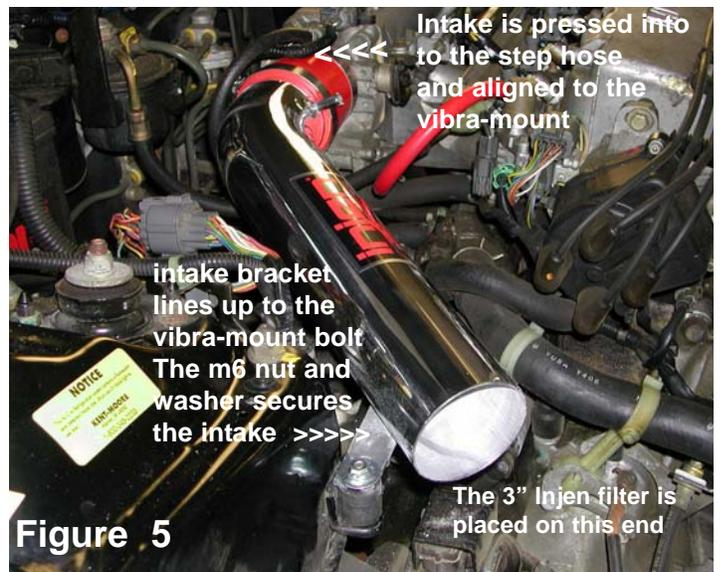

Figure 5
- 5- Press the nipple end of the intake into the 3" side of the step hose and align the bracket to the vibra-mount. Use the m6 nut and washer to semi-fasten the intake in place. (See fig. 5)